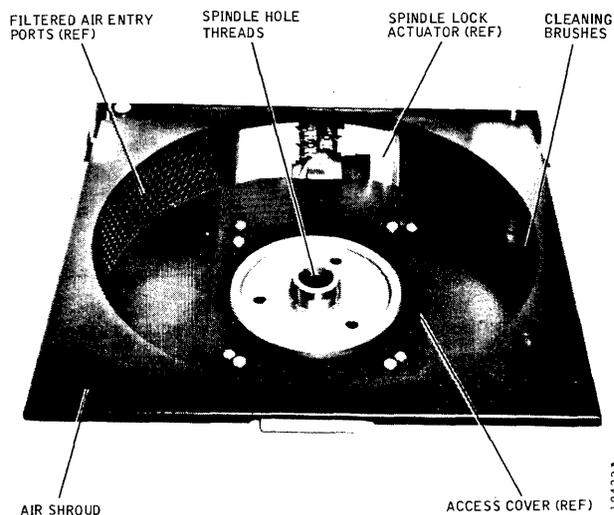

Figure 2-4. Disk Pack Area Components
2. Wipe the inside of the air shroud (Figure 2-4) with a lint-free cloth dampened with alcohol. Wipe it dry and remove all residue.
2. Inspect the spindle surface (Figure 2-4) for dirt or other contamination and for wear.